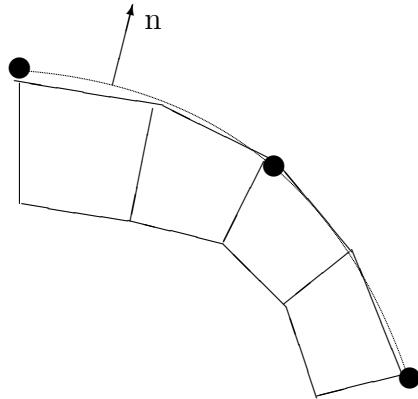

Figure 5.7: Two-Dimensional Surface Loading
*FEAPpv* will search for all nodes which are closer to the interpolation patch than GAP (default is  $10^{-3}$ ). Using the element boundary segments which have outward normals to the patch (by right hand coordinate rule as shown for a two-dimensional problem in Figure 5.7) will be located and the values interpolated to nodes. For tractions the equivalent nodal loads will be computed. In two dimensions it is not necessary for the interpolation patch to exactly match the element boundary segments.